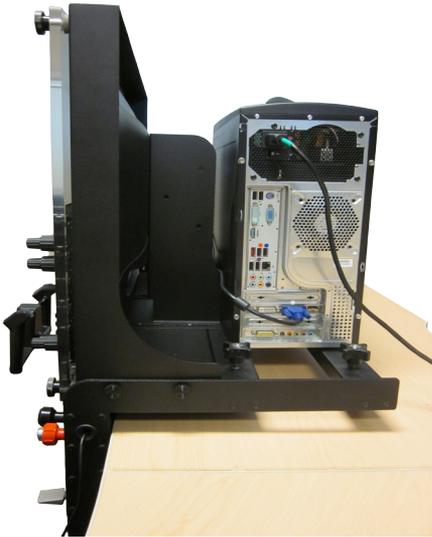

Fig.10
- Plug one Power Cable into the back of the monitor. (See Fig. 10) Plug the opposite end into a standard wall outlet.